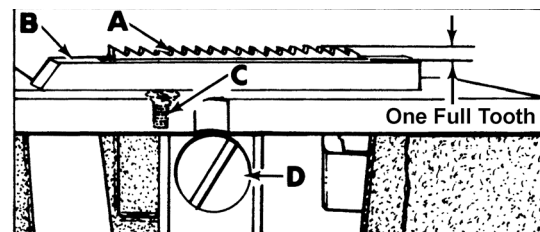

Fig 9
Feed dog (A, Fig. 9) should be centered in throat plate (B) with equal clearance on all sides and ends with feed travel set to desired stitch length. At highest point of travel, tips of feed dog teeth should extend the depth of 1 full tooth above throat plate. Screw (C) should be set to support feed dog after screw (D) has been loosened which secures feed dog in position.